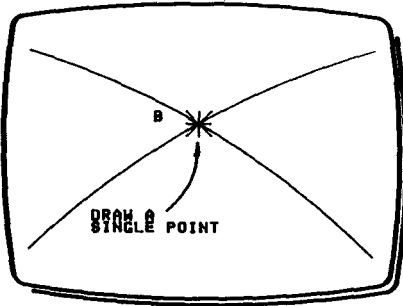

Fig 3
- 10 Press and release L to plant the origin cursor there. Then, without moving XY, press and release T to draw a single point at the intersection as in Fig 3 (you can't see it on the screen, but watch for the change in the memory count at bottom right).